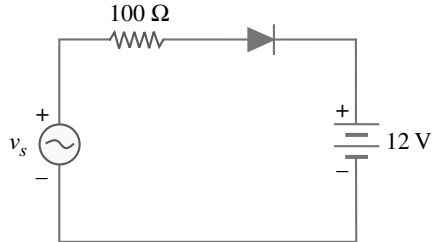

Fig. 4.30
**Example 4.27.** Fig. 4.30 shows a circuit for charging a 12 V battery. If  $v_s$  is a sinusoid with 24 V peak value, find (i) the fraction of each cycle during which the diode conducts (ii) the peak value of the diode current and (iii) the maximum reverse-bias voltage that appears across the diode.